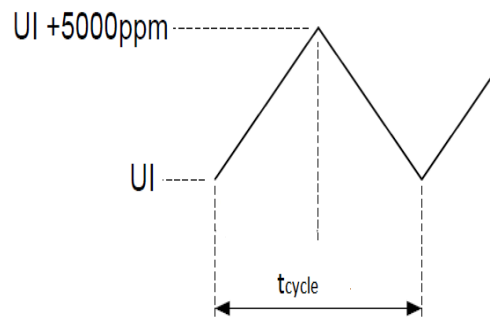

Figure 62 Measuring Modulation Rate
- c Measure the modulation rate, modulation rate is  $1/t_{\text{cycle}}$ .  $t_{\text{cycle}}$  is defined as shown in Figure 62.